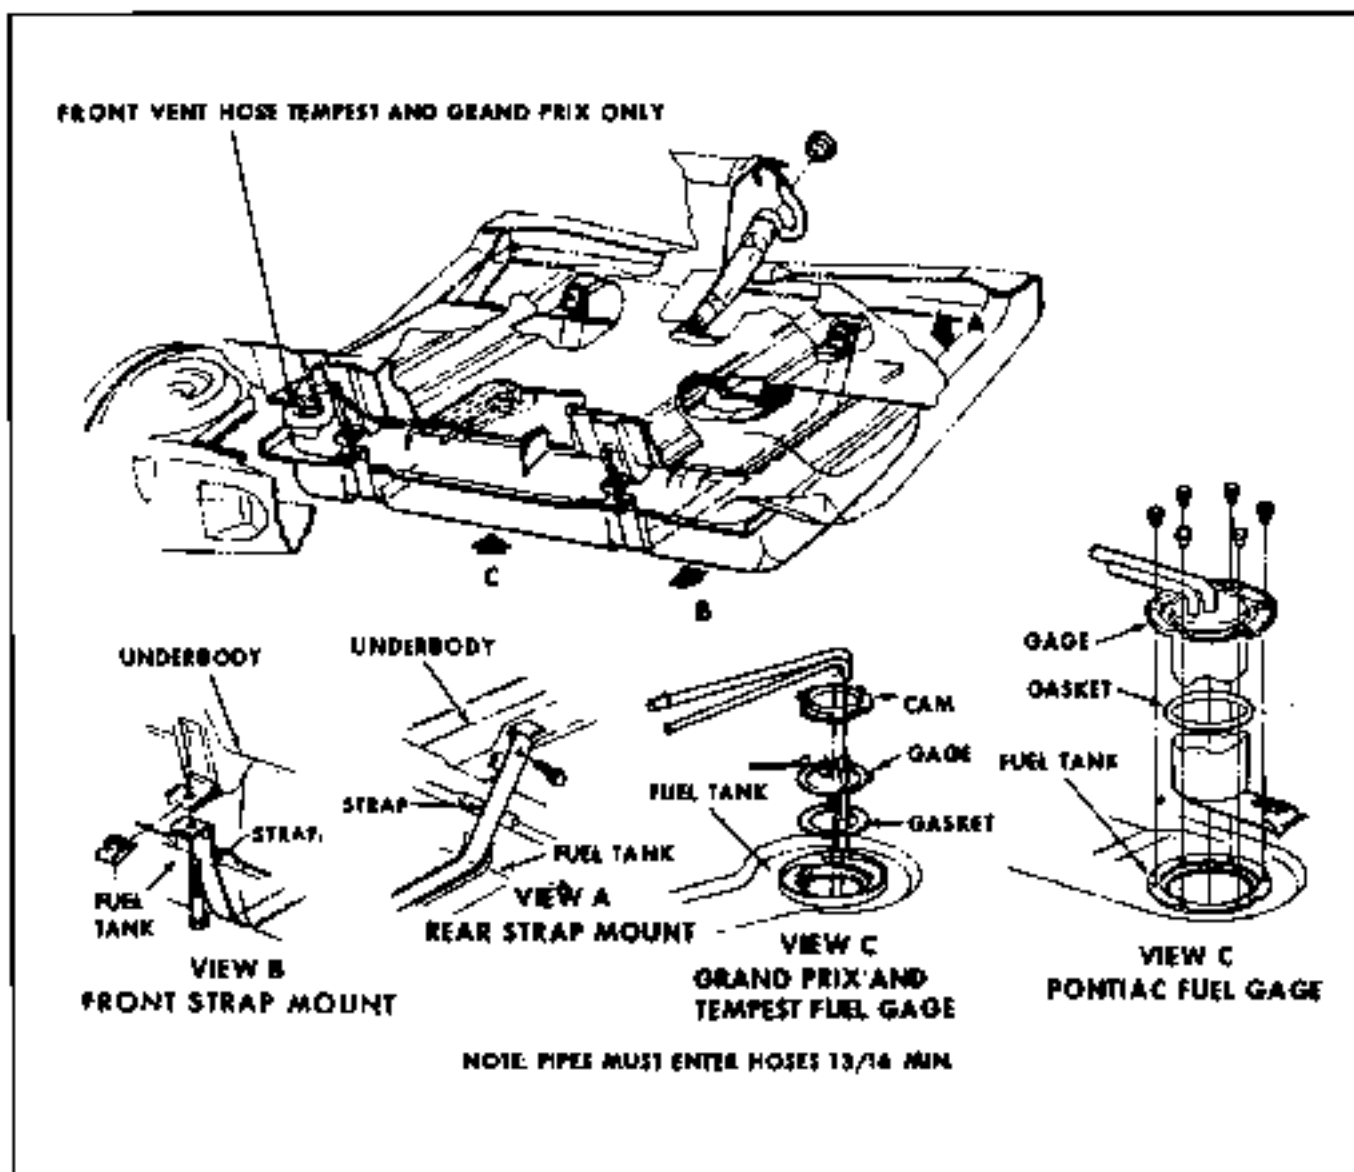

Fig. 8-2 Installation of Fuel Tank - except Firebird
2. Disconnect fuel hose and fuel vapor return hose at tank gage unit (Figs. 8-2 and 8-7).